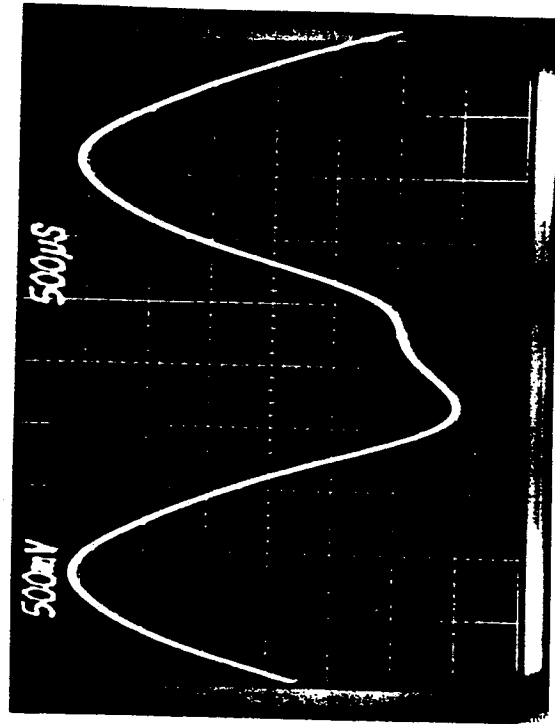

Figure 5-8
2. Check the signal on pin 1 of U8; it should be approximately as shown in Figure 5-8.